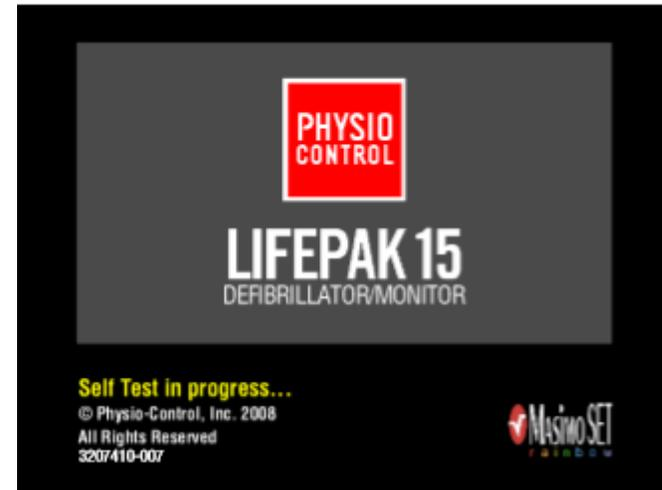

Figure 1.8—Display screen
7. Verify that the display screen appears similar to figure 1.8.